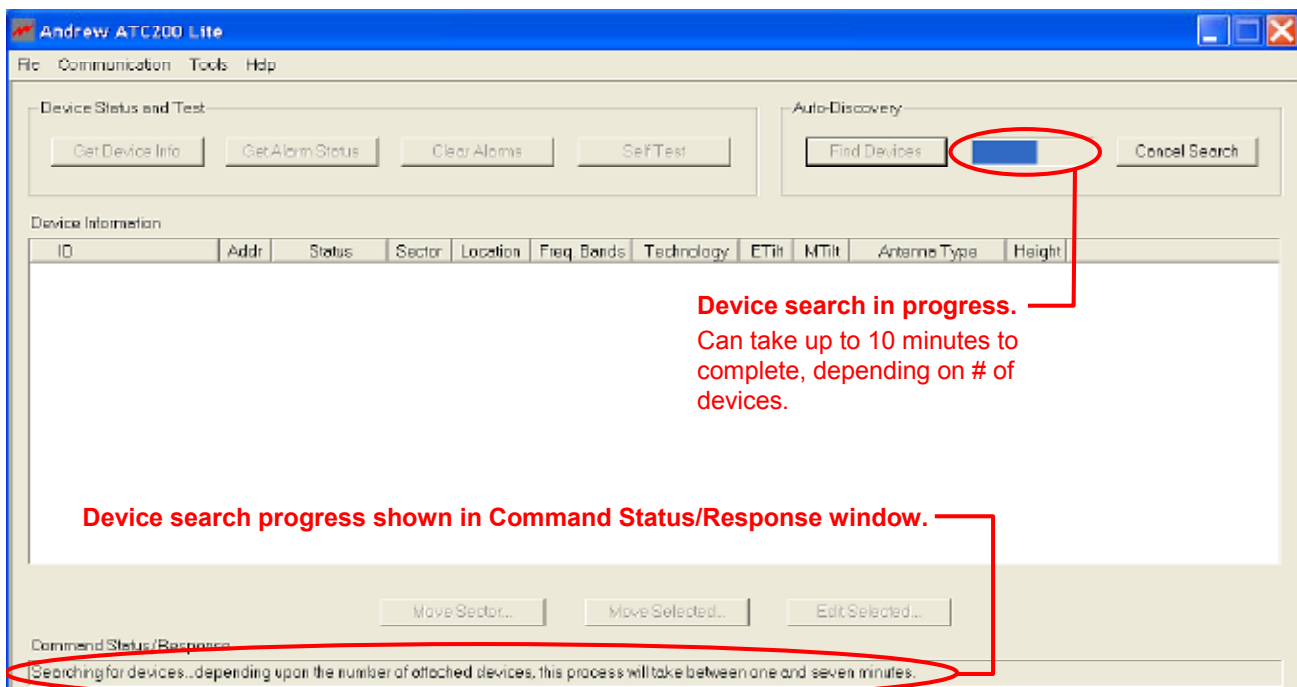

Figure 4-2. Progress Shown During Device Search.
2. The 'Auto Discovery' bar (located at the top of the screen) and the Command Status/Response window (located at the bottom of the screen) will show the status on the search's progress (Figure 4-2). As each device is found during the search, the Command Status/Response window will show the status of how many devices have been found .
The 'Cancel Search' button can be used to halt the device search at anytime. Note that if a device search is halted, a new search can be started. To start a new device search, click on the 'Find Devices' button again (Figure 4-2).